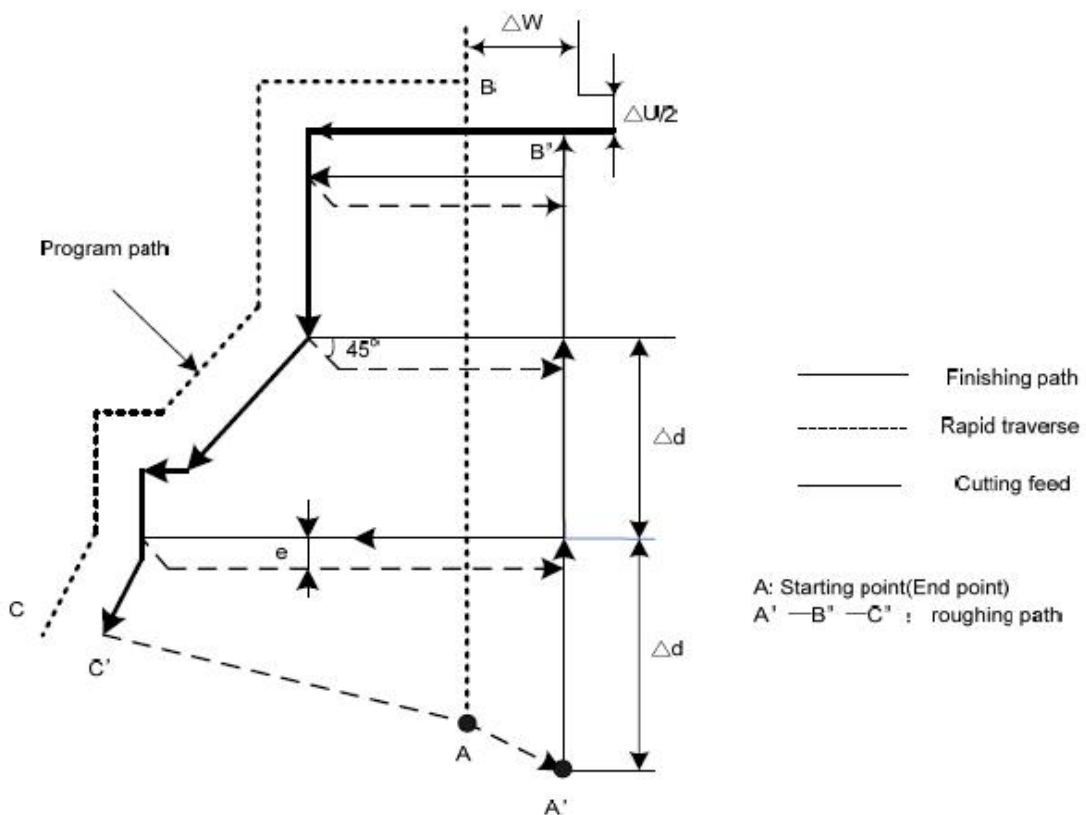

Fig. 3-25 G71 cycle path
1) Execution process: (Fig. 3-25)
- ① X rapidly traverses to A' from A point, X travel is Δu , and Z travel is Δw ;
- ② X moves from A' is Δd (tool infeed), ns block is for tool infeed at rapid traverse speed with G0, is for tool infeed at feedrate F with G71, and its direction of tool infeed is that of A \rightarrow B point;
- ③ Z executes the cutting feeds to the roughing path, and its direction is the same that of Z coordinate A \rightarrow B point;
- ④ X, Z execute the tool retraction e (45° straight line) at feedrate, the directions of tool retraction is opposite to that of too infeed;
- ⑤ Z rapidly retracts at rapid traverse speed to the position which is the same that of Z coordinate;
- ⑥ After executing X tool infeed ($\Delta d+e$) again, the end point of traversing tool is still on the middle point of straight line between A' and B'(the tool does not reach or exceed B'), and after executing the tool infeed ($\Delta d+e$) again, execute ③; after executing the tool infeed ($\Delta d+e$) again, the end point of tool traversing reaches B' point or exceeds the straight line between A'→B' point and X executes the tool infeed to B' point, and then the next step is executed;
- ⑦ Cutting feed from B' to C' point along the roughing path;
- ⑧ Rapid traverse to A from C' point and the program jumps to the next clock following nf block after G71 cycle is ended.